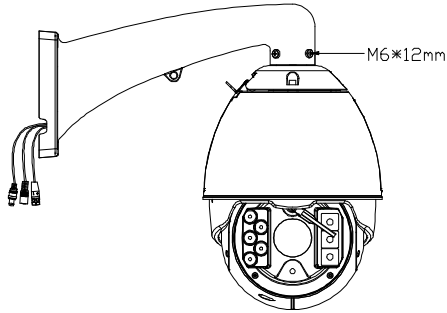

Fig 5-5 Fix the dome camera installation head to bracket
4. Fix the dome camera installation head to bracket, screw 4 M6×12 screws by cross screwdriver, as fig 5-5.